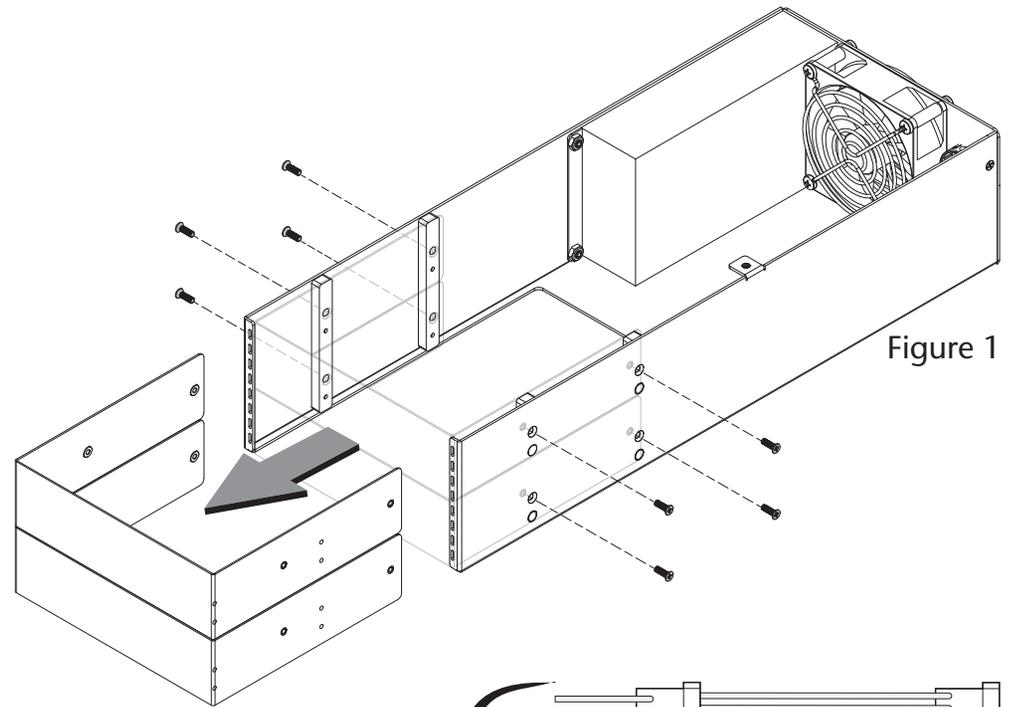

Figure 1
2. Remove and set aside the 8 screws securing the mobile rack cover plates to the frame (**Figure 1**). Note that if you are installing a single half-height device, you only need to remove the four screws securing one plate.
3. Set aside the unfastened mobile rack cover plate(s) (**Figure 1**).